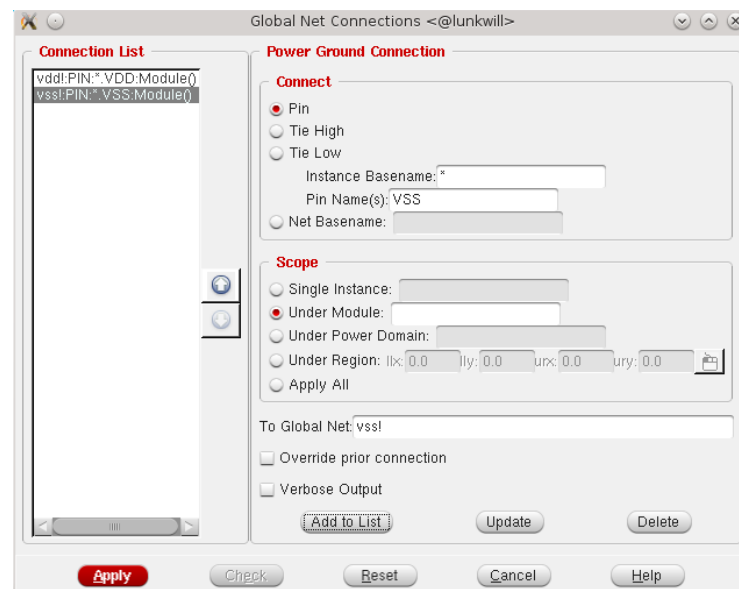

Figure 4.6: Global Net Connections window.
6. Pin Name(s) should be VDD or VSS (capital case) and To Global Net should be “vdd!” or “vss!” respectively. Check Figure 4.6 for an example. Click Add to List for both supplies, then press **Apply** and close the window.